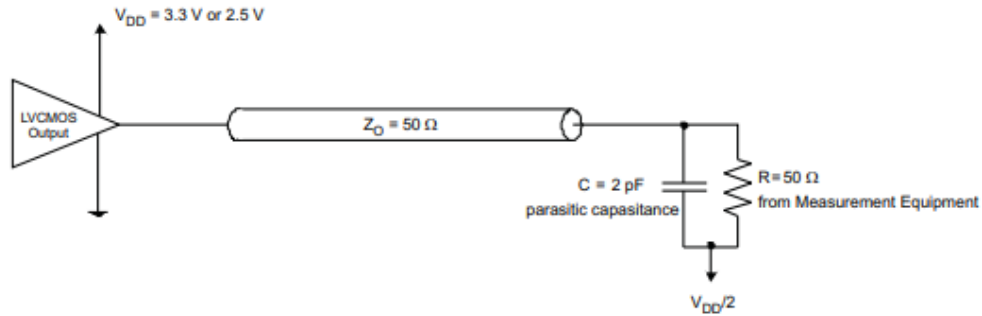

Figure 1. Test Load Circuit
(1) All typical values are at respective nominal VDD. For switching characteristics, outputs are terminated to 50 Ω to VDD/2 (see Figure 1).
(2) This is the formula for the power dissipation calculation (see and the Power Considerations section).
The output load can be capacitive only or capacitive and resistive. The following formula and the power graphs in and Figure 1 can be used to obtain the power consumption of the device: